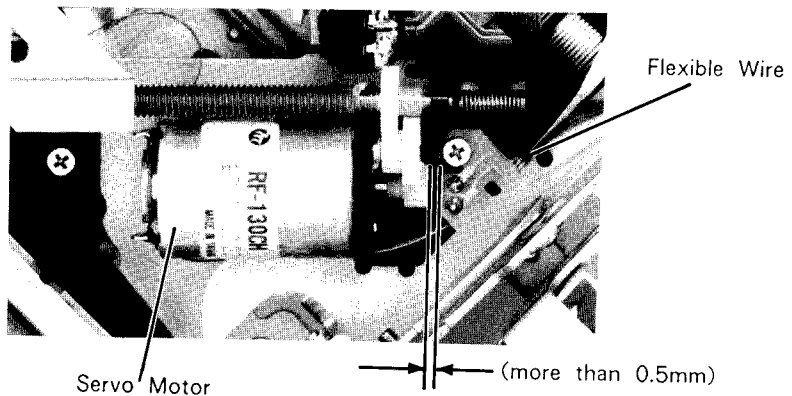

Figure 23
- (1) After mounting the servo motor, make sure the clearance between the servo motor and flexible wire is more than 0.5mm as shown in Figure 23.